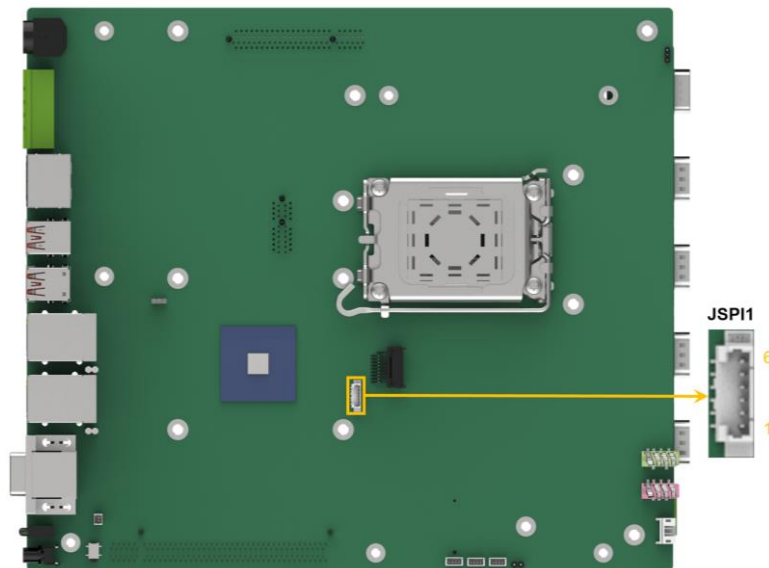

Figure 4-10: Flash SPI ROM Connector Location
- CN Location:** See Figure 4-10